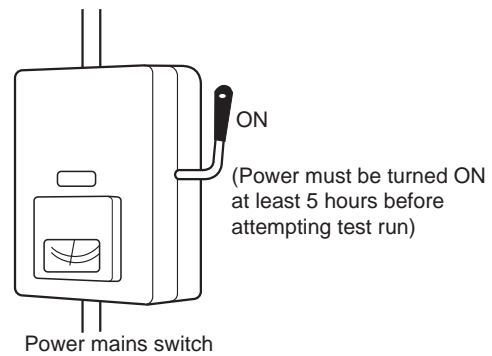

Fig. 1-1
- (1) All loose matter is removed from the cabinet, especially steel filings, bits of wire, and clips.
- (2) The control wiring is correctly connected and all electrical connections are tight.
- (3) The transportation pads for the indoor fan have been removed. If not, remove them now.
- (4) The power has been connected to the unit for at least 5 hours before starting the compressor. The bottom of the compressor should be warm to the touch and the crankcase heater around the feet of the compressor should be hot to the touch. (Fig. 1-1)